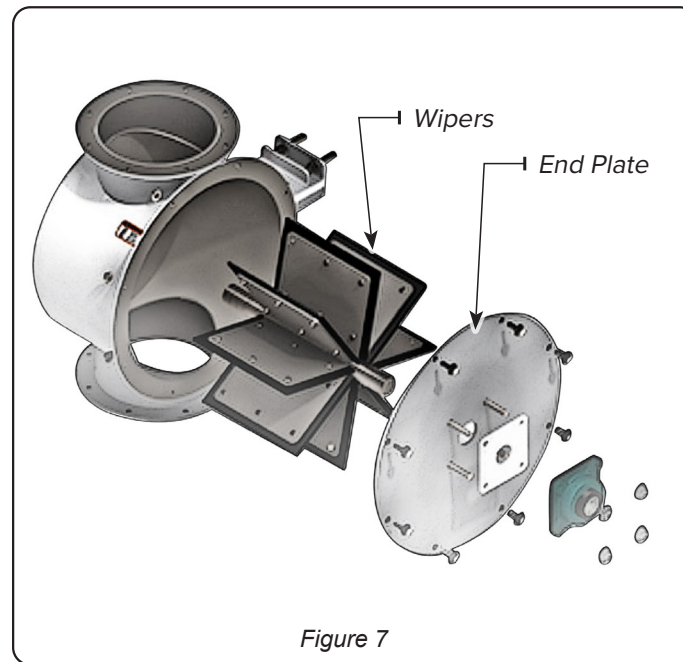

Figure 7
- 7. Remove the bolts on plate (Figure 7).
- 9. Remove the end plate (Figure 7).